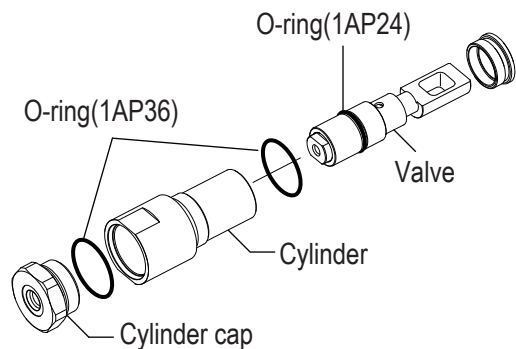

Fig.19
- a. Attach O-rings to cylinder, cylinder cap and valve. (Fig. 19)